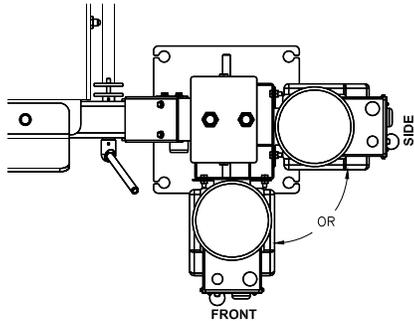

Fig 17 – Power Unit
- 33) Install the Power Unit to the column using the supplied M8x20mm bolts and M8 nuts. The power unit can be installed on either the front or side of the power column to suit install location, shown in Fig 17.